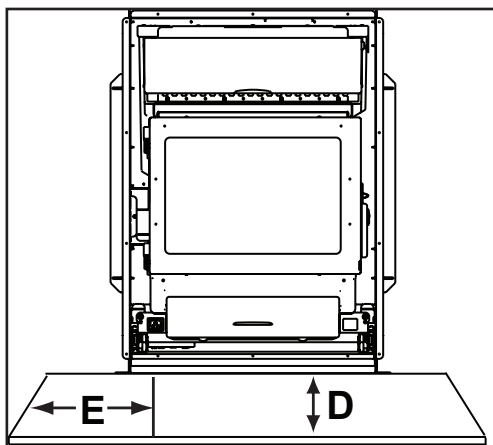

Figure 25.2
- Any hearth extension is to be installed as illustrated in Figure 25.2